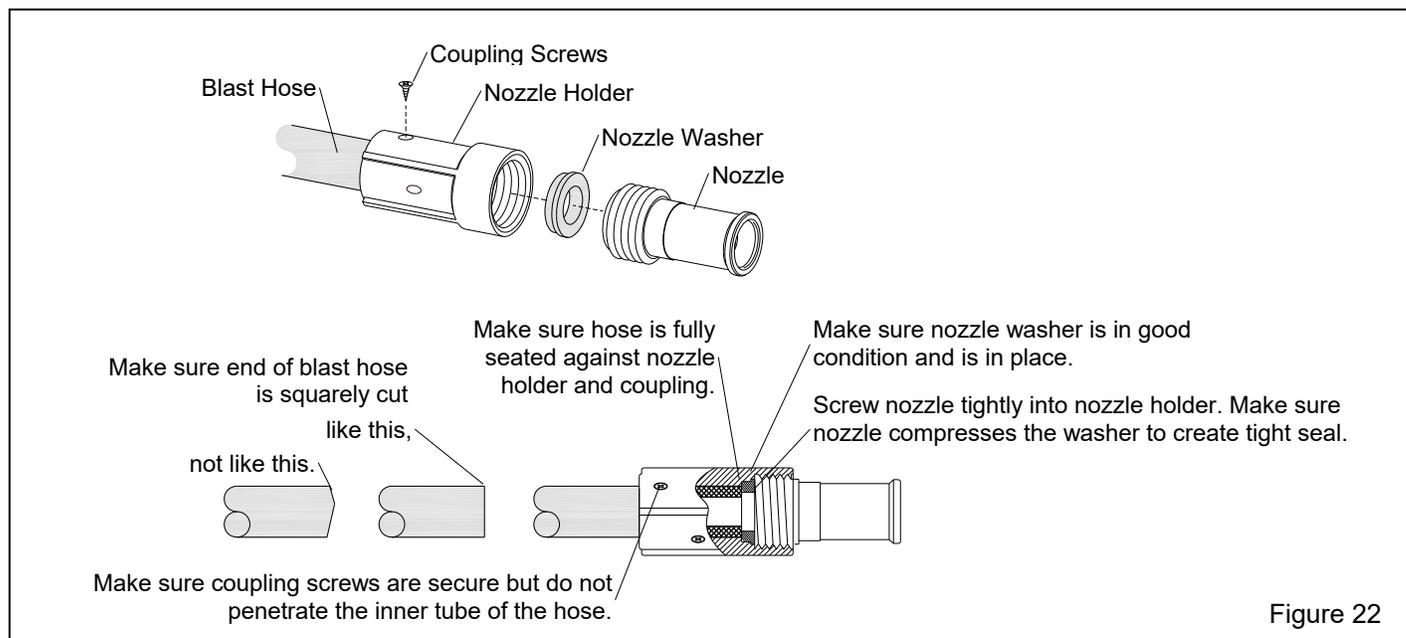

Figure 22
7.2 Blast Hose and Nozzle – Figure 22
7.2.2 When replacing blast hose make sure the hose is square cut and that it is fully inserted into the nozzle holder and coupling until it seats tightly against the shoulder in the holder and coupling, as shown in Figure 22. Make sure correctly sized screws are used to secure the nozzle holder and blast hose coupling. Screws should not penetrate the inside of the blast hose.